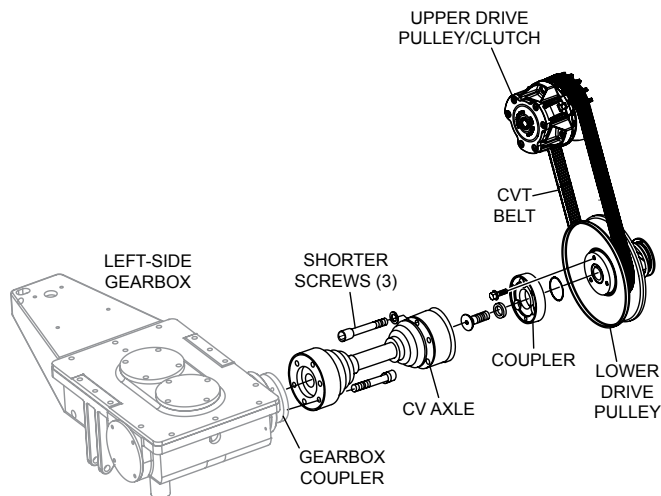

Figure 28. Remove Left-Side CV Axle
2. Disconnect the left-side CV Axle from the left-side gearbox and the lower drive pulley coupler. See Figure 28.
3. Reconnect left-side CV Axle Assembly. to the left side gearbox and lower drive pulley coupler. See Figure 28.